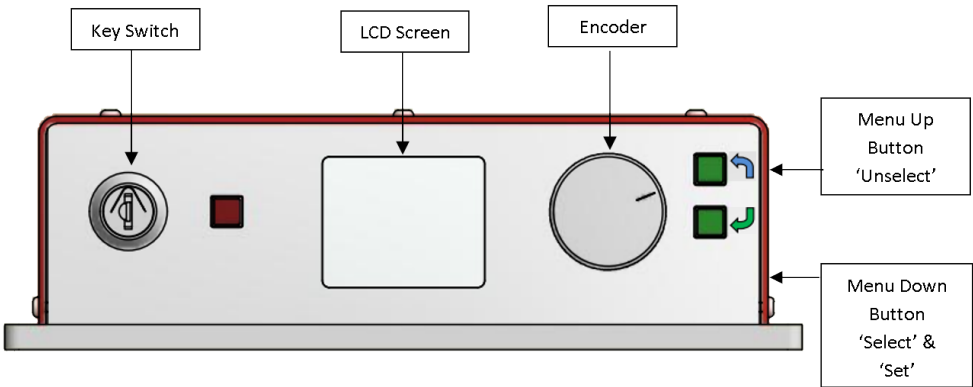

Figure 4-1
- 6 Using the Encoder and Menu Up/Down buttons (see Figure 4.1) the operation current or power can be adjusted (see Section 5: Front Panel Controls).